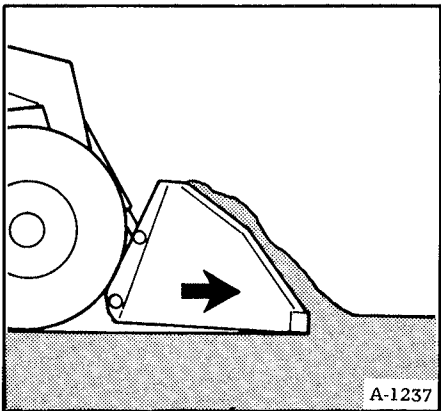

Fig. 17 Filling Bucket
3. Raise the bucket slightly to increase traction and to maintain a uniform depth (Figure 17).
4. Continue driving forward until the bucket is filled (Figure 17).